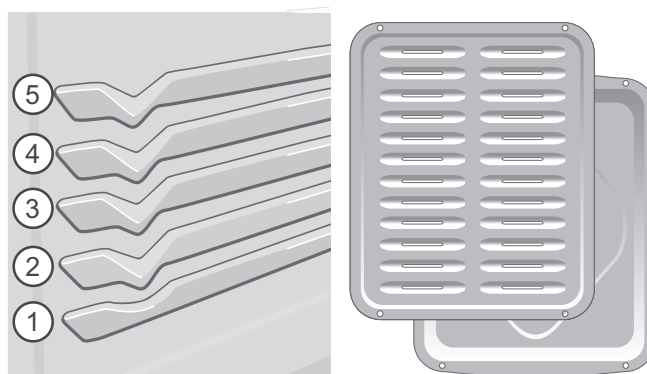

Figure 22: Rack positions (L) optional broil pan and insert (R)
2. Position bakeware in oven to the preferred rack position. (Figure 22). Be sure to close oven door before broiling.